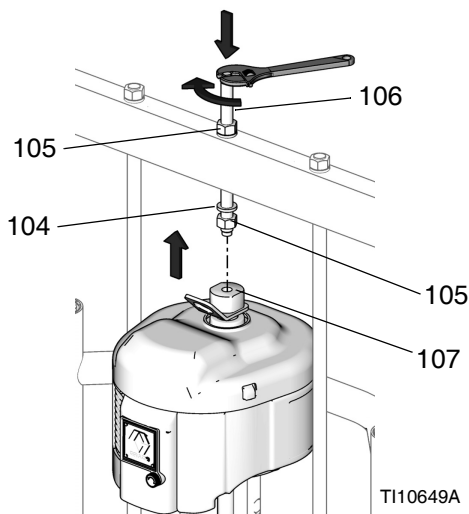

FIG. 30
- b. Install threaded rod (106) through center hole in the crossbar. Install lock washers (104) and nuts (105) onto threaded rod (106), both above and below crossbar. Use wrench to hold lift ring adapter (107) and tighten threaded rod (106) into lift ring adapter (107) using another wrench. See FIG. 30.
- c. Tighten nut (105) below crossbar to 25 ft-lb (34 N•m) maximum.
- d. Tighten nut (105) above crossbar to lock motor in place.